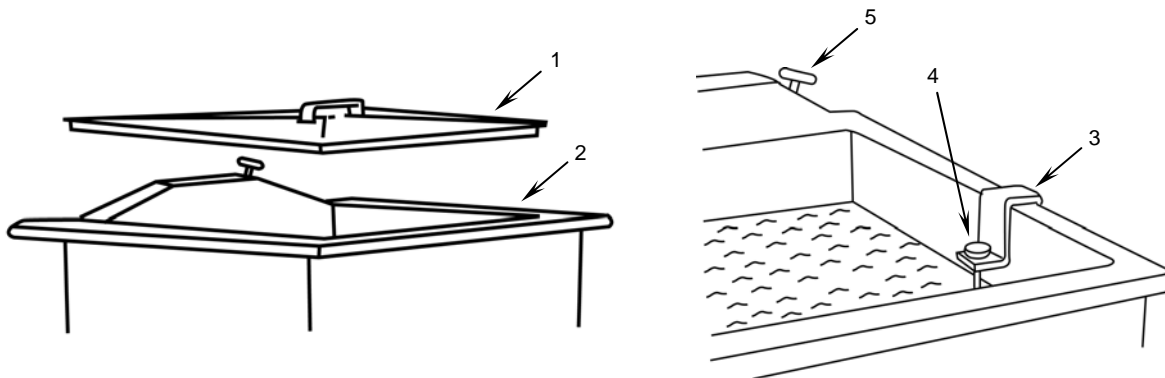

Figure 10. Preparing the Sinks for Operation.
- a. Remove the covers (**Figure 10, Item 1**) from the sink assemblies (**Figure 10, Item 2**) to be used.
- b. Ensure the thermometer brackets (**Figure 10, Item 3**) and thermometers (**Figure 10, Item 4**) are attached to the sink assemblies (**Figure 10, Item 2**).
- c. Tighten the drain knobs (**Figure 10, Item 5**).
- d. Close the drains on the sink assemblies (**Figure 10, Item 2**) by rotating the drain knobs (**Figure 10, Item 5**) $\frac{1}{4}$ turn clockwise.
- f. Fill the sinks (**Figure 10, Item 2**) with 20 gallons (75.7 liters) of water, approximately 8 inches (203 mm) deep.